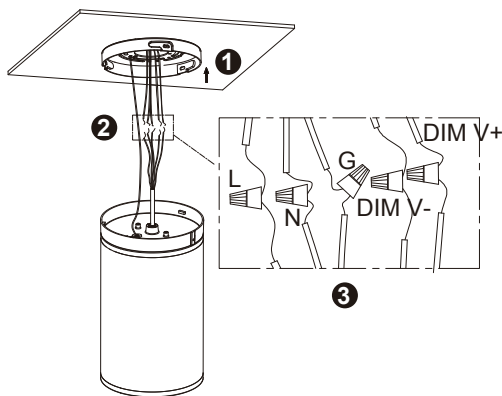

Fig 3
3. ①Fixed ceiling tray on the ceiling. ②Put on the safety rope. ③Connect the wire. (Fig 3)